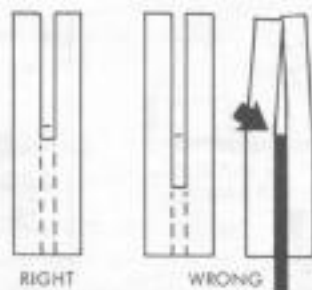

Figure 22
1. The process of cutting thick boards into thinner ones is known as "resawing". It is a ripping operation. (See figure 22.) Small boards (up to 3-3/8-inch maximum width) can be resawed in one pass, but larger boards (up to 6-1/4-inch maximum) require two passes, one along each edge of the board.
- If the first cut is too deep, the kerf will close and bind the saw on the second cut, with danger of kickback. Also, when the kerf closes, the two sides of the cut are no longer parallel to the saw blade, and the saw will cut into them to spoil their appearance. (See figure 22.)